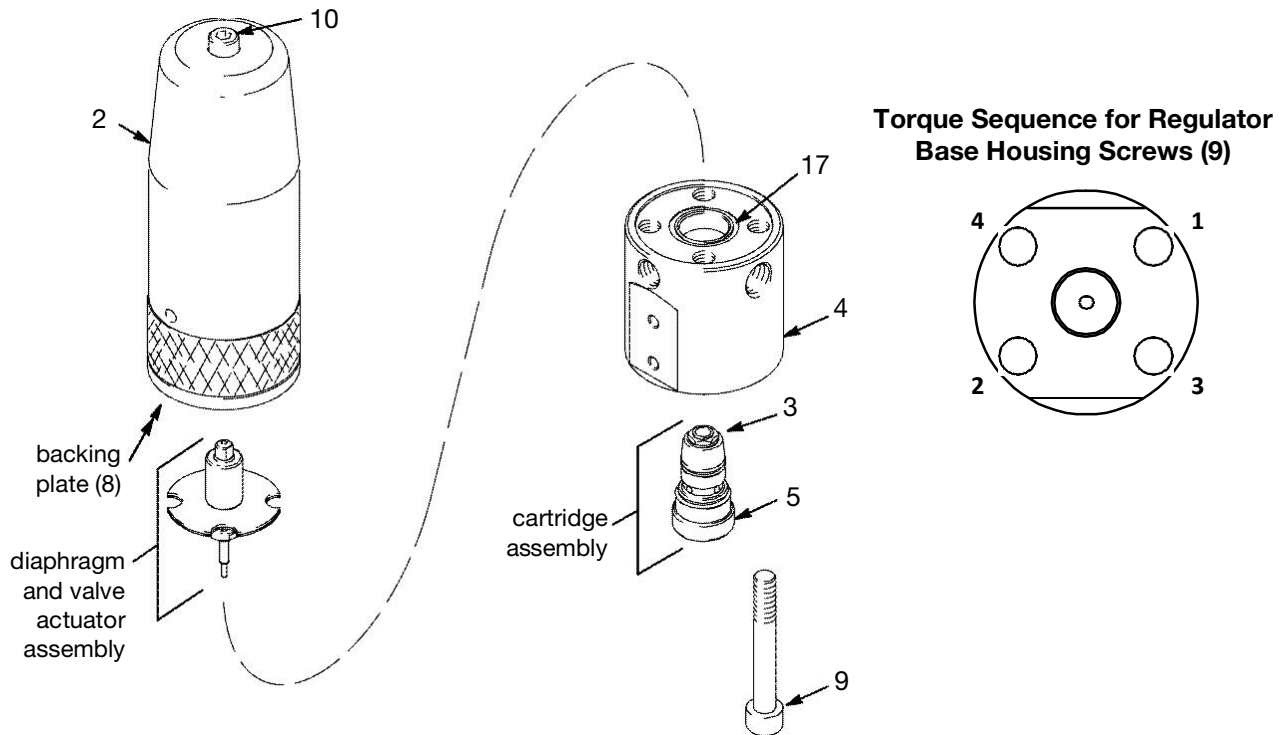

FIG. 3
See Fig. 3, and follow the steps below. For parts that are not called out in Fig. 3, see **Parts**, starting on page 16.
10. Align the holes in the diaphragms with the backing plate (8).
11. Install the backing plate/diaphragms assembly over the base housing (4). Hold the backing plate (8) tightly against the base housing, and install the four base housing screws (9).
12. Torque the base housing screws (9) first to 20 to 25 ft-lb (27 to 34 N•m), then to 30 to 35 ft-lb (41 to 48 N•m) in the sequence shown in Fig. 3.